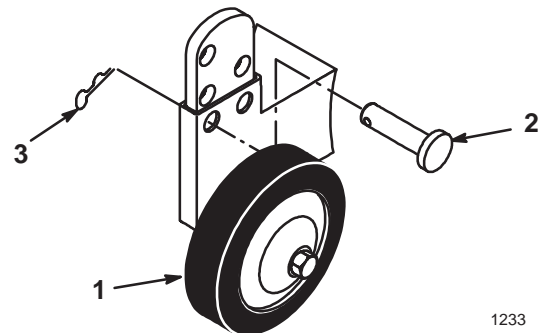

Figure 7
2. Remove the hairpin cotter and pin to change the hole location (Fig. 7).
3. Select a hole position so that the gage wheel is 3/8 in. (10 mm) off of the ground for the height-of-cut to be used (Fig. 7).